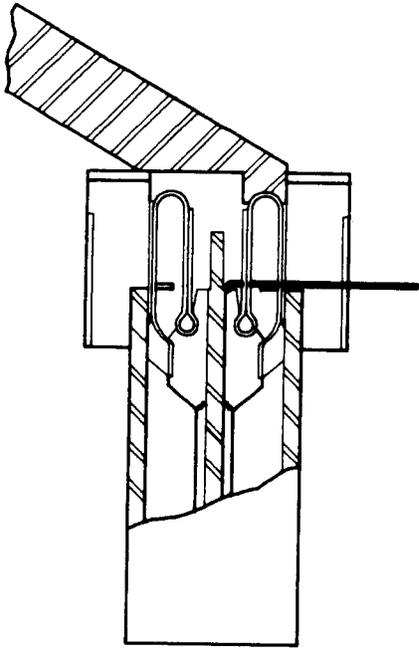

Fig. 10—Replacing Damaged Terminal With the R-4858 (Amp No. 226187-1) Repair Tool on the 645042 Amp Connector
4.05 To replace the contact, place the new contact in the connector by hand, and using the repair tool, as shown in Fig. 10, push down on the contact with the insertion end.